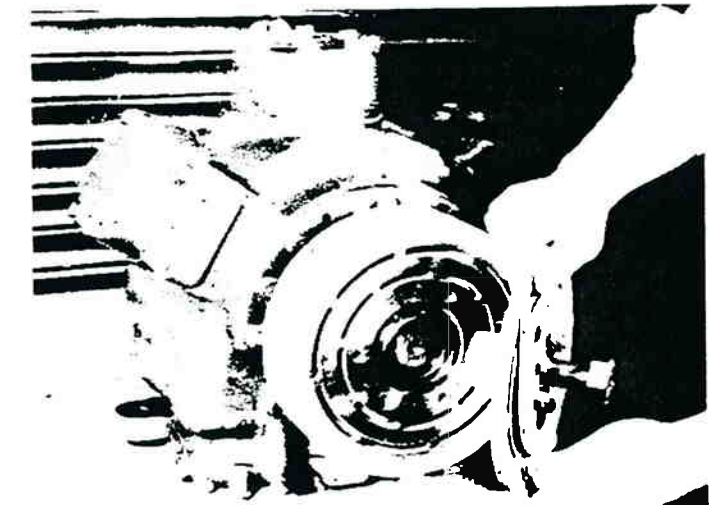

Figure 16-53: Armature Removal
6. Remove the armature (figure 16-53).
7. Remove the armature (figure 16-53).